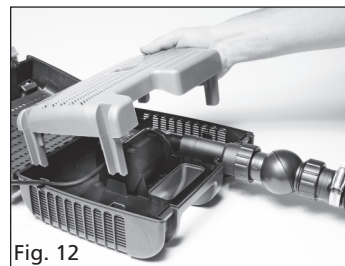

Fig. 12
13. If you have fish or other wildlife in your pond, there are periods in the year during which they may breed. At this time the fish 'fry' are small and can be sucked into the pump. To minimise this possibility, the Aquaforce range of pumps has a unique Wildlife Protection System (WPS), which reduces the inlet strainer hole size down to 2mm at this critical time in fishes' life cycle. To use this feature, locate the WPS's 4 legs into the corresponding area in the lower cage as shown in Fig 12 ensuring that the WPS is the correct way round. Close